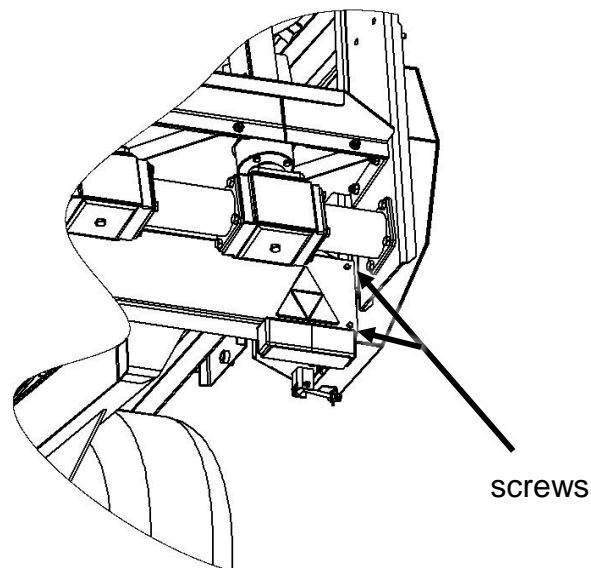

Figure 21. Positions of screws for unfastening the guard
- Disconnect the connector of the electrical installation under the guard, then unfasten guard screws (fig. 21) on both sides of the machine. Then remove the guard;